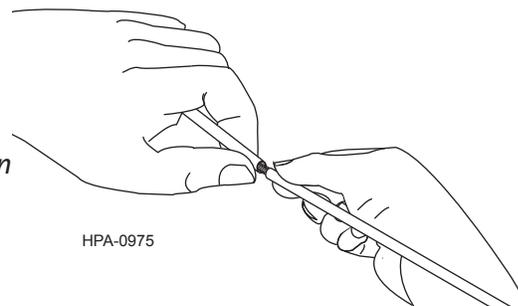

Figure 12
- Carefully flex the tube to break it at the score point. The break should be clean and free of rough edges (Figure 12).